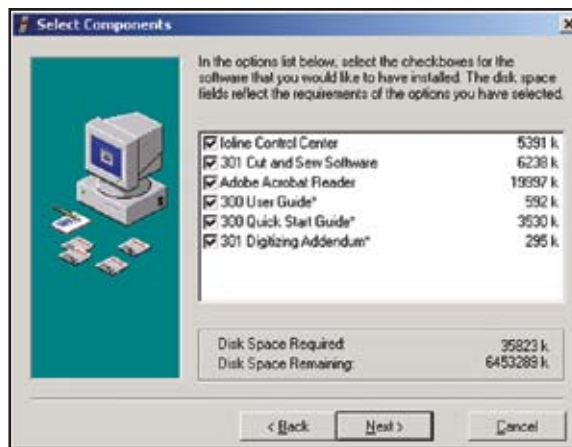

Figure 3. The 301 Software installation screen.
3. Follow the self-guided installation instructions to install the **Ioline Control Center**, **301 Software**, **Acrobat Reader**, and all manuals. (See **Figure 3**.)